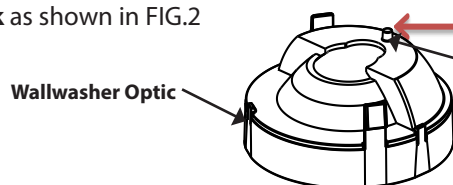
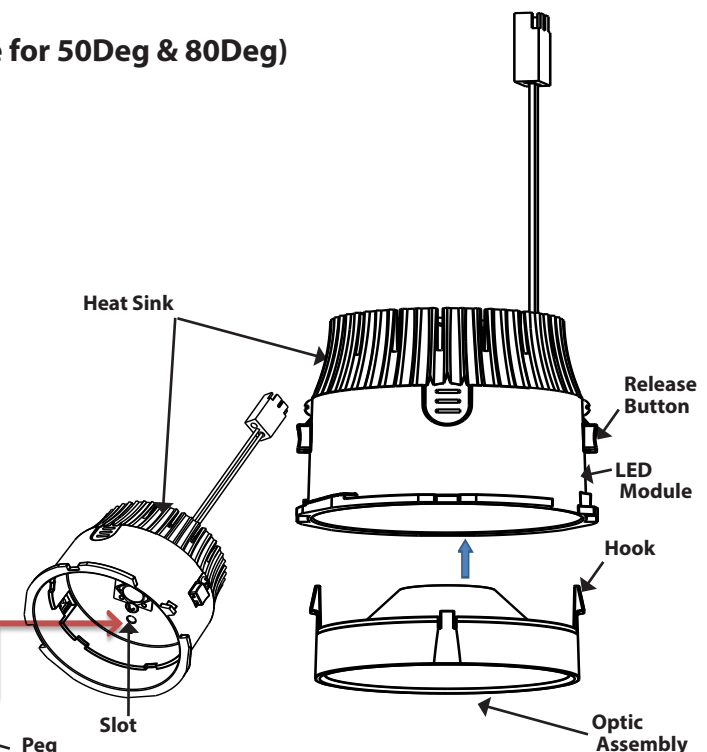

FIG.2
FIG.1
2. Take new optic and Orient to match **hooks** with **release buttons** on **LED Module**. Then slide **optic assembly** into **LED module** until it clicks in, as shown in FIG.1
3. For **Wallwasher** optic assembly, **peg** must line-up with **slot** in **heatsink** as shown in FIG.2
1. The **LED Module** can only be installed in one orientation. **Slot** from **LED module** must line up with **rotation stop** and **lock spring** located on **trim** ring. See FIG.1 and FIG.2